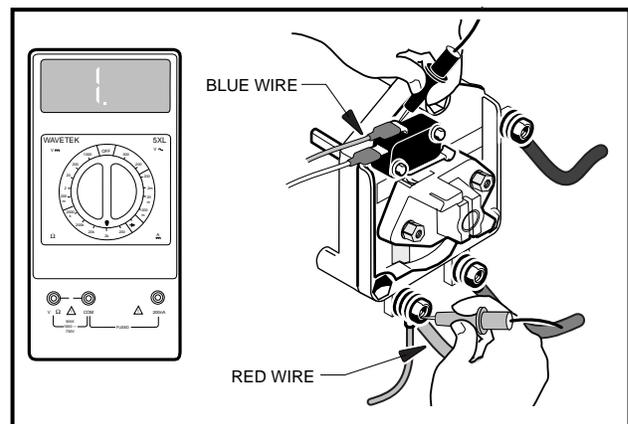

Figure 11-5 Key Switch Test
1. With batteries disconnected, place the red (+) probe of a multimeter (set at Ω) on the **forward** terminal of the F&R switch (**Figure 11-5, Page 11-7**) and place the black (-) probe on the upper (COM) terminal of the F&R anti-arcing limit switch (**Figure 11-5, Page 11-7**). With the key in the OFF position, the reading should be no continuity.